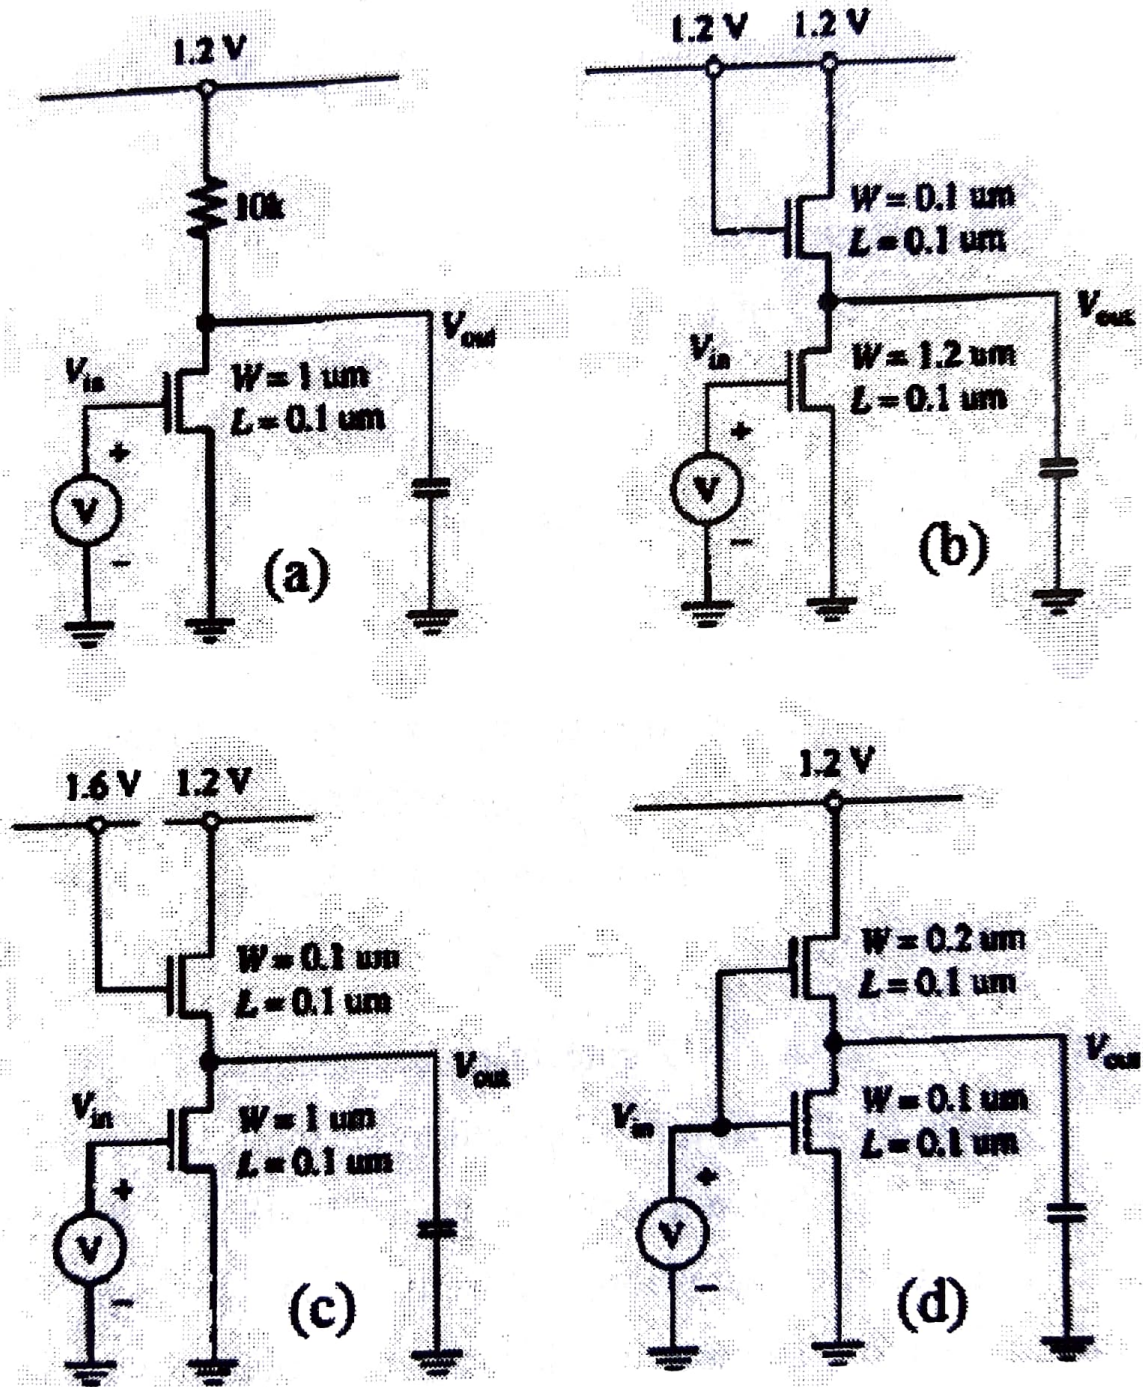

Fig. 1
2. The circuit of Fig. 1 shows different implementations of an inverter whose output is connected to a capacitor, do all calculation in  $0.13 \mu\text{m}$ . (15)
3. Calculate  $V_{OH}$  and  $V_{OL}$  of the circuits in Fig. 1 (15)
4. (a) Derive the formulation for transconductance with and without body bias for MOSFET. And address the merits of both the case with mathematical justification. (8)